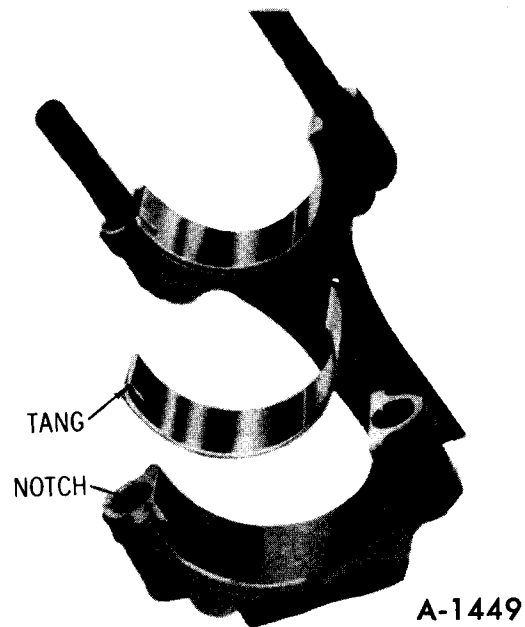

Figure 44—Bearing Tang and Notch
5. Clean oil from journal bearing cap, connecting rod and outer and inner surface of bearing inserts. Position insert so that tang is properly aligned with notch in rod and cap (figure 44).